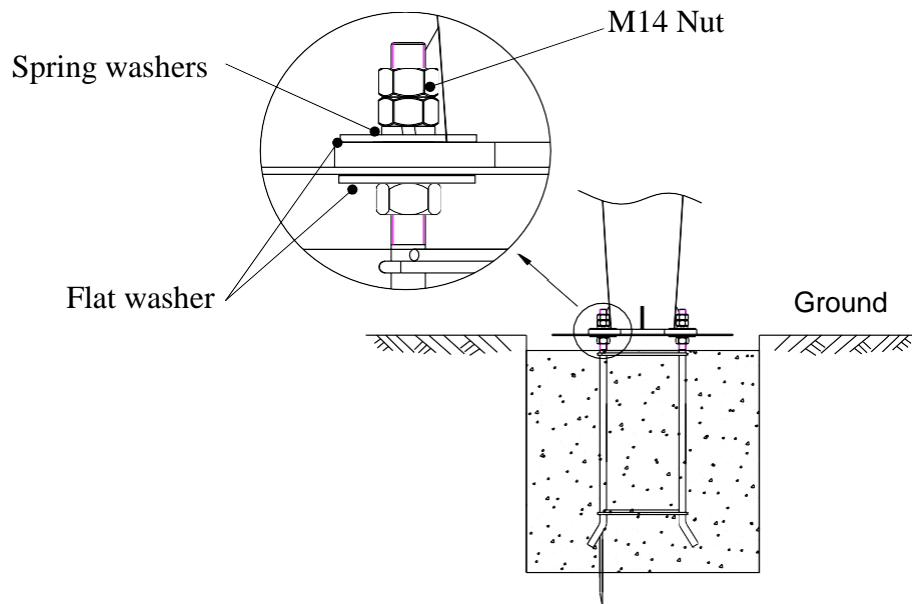

Figure 19
- ⑤ The spring washer and flat washer should be through the stud placed on the whole lamp base, with nut fixing, as shown in Figure 19.